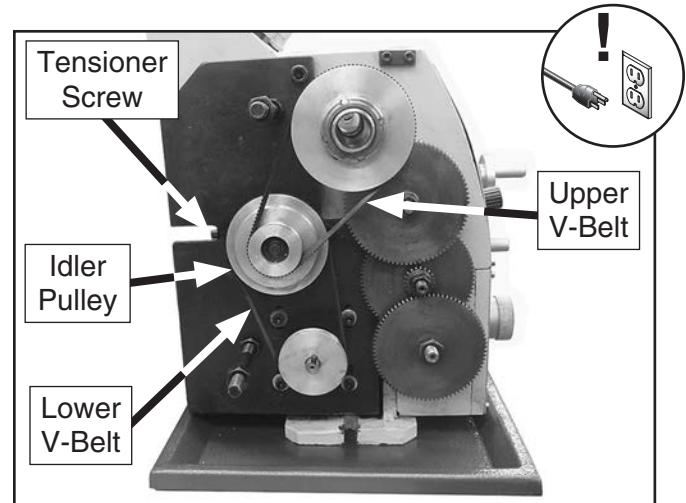

Figure 141. Tensioner screw and V-belts.
4. Turn tensioner screw (see **Figure 141**) clockwise to tension V-belts or counterclockwise to loosen V-belts.